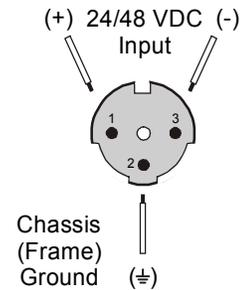

Figure 2. Voltage Polarity Mapping for Female Cable Connector (solder side)
- If not, connect the wires of your power supply cable to the supplied cable connector according to the voltage polarity mapping shown in Figure 2. Note that the **solder side** of the connector is shown.